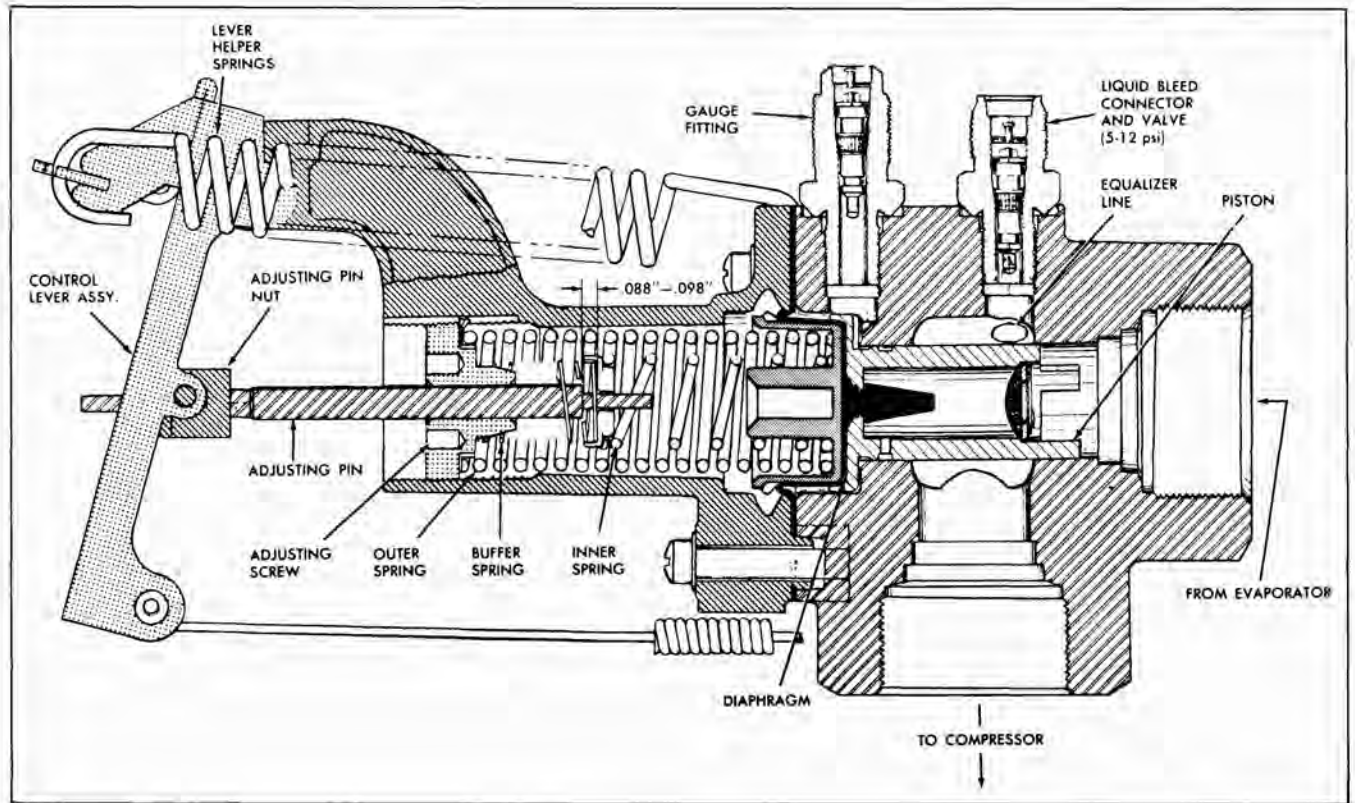

Fig. 5-103 Cross Section of Temperature Regulation Valve
11. Place valve on evaporator inlet end and measure the distance from the top of the adjusting pin with the lever in the "free fall" position and with the lever full up against the stop. This distance should be .088" to .098". Adjust by turning pin. This is the clearance between the shoulder at the bottom of the adjusting pin and the buffer spring seat (Fig. 5-103).